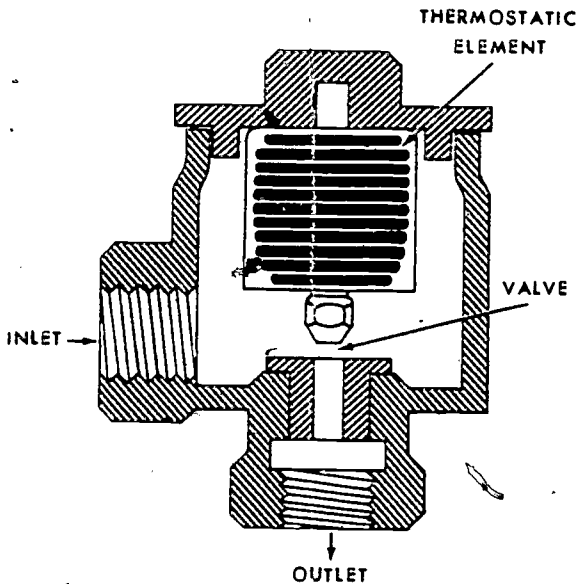

Figure 57. A typical thermostatic trap.
16. *Thermostatic trap.* The thermostatic trap is often used on radiators and is commonly known as a radiator trap. It has a bellows that contains volatile fluid which expands and vaporizes when heated. Pressure builds up inside the bellows, causes it to lengthen, and thereby closes the valve. A typical thermostatic trap is shown in figure 57.